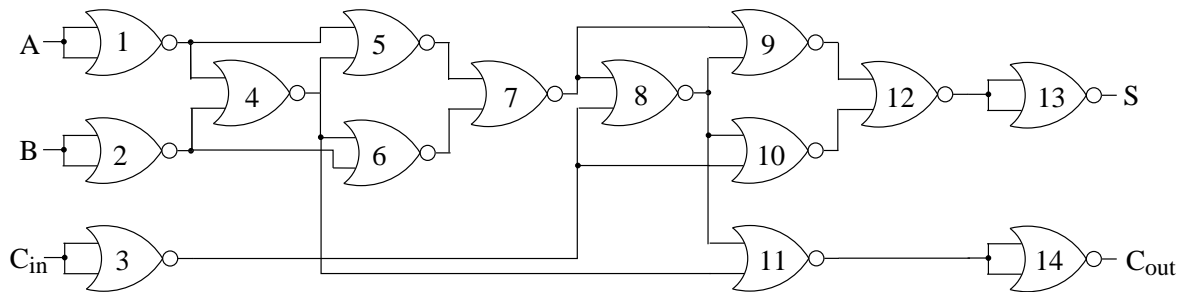

Figure 2: Static full adder using two-input NOR gates
1. Design a static Full Adder (FA) in CMOS technology using
(A) two-input NOR gates and the design presented in Fig. 2